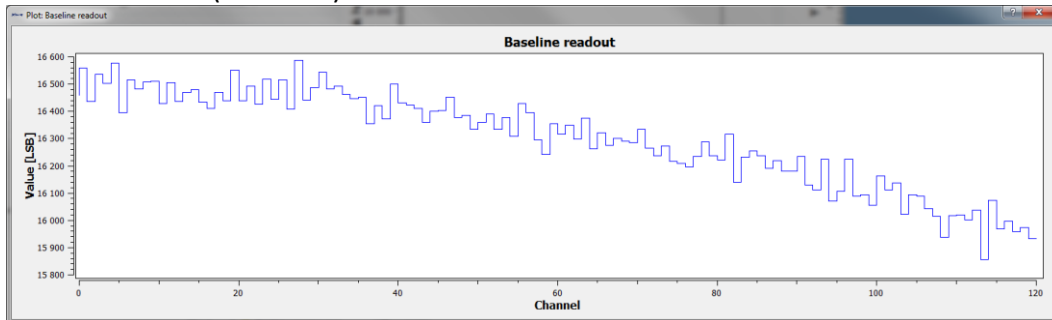

Figure 10: Baseline readout with beta software/firmware.
*The event rate in the top right corner of IDEAS Testbench shall go up to about 1000 events/s, and readout data shall appear in the Event Data window like shown in Figure 10.*